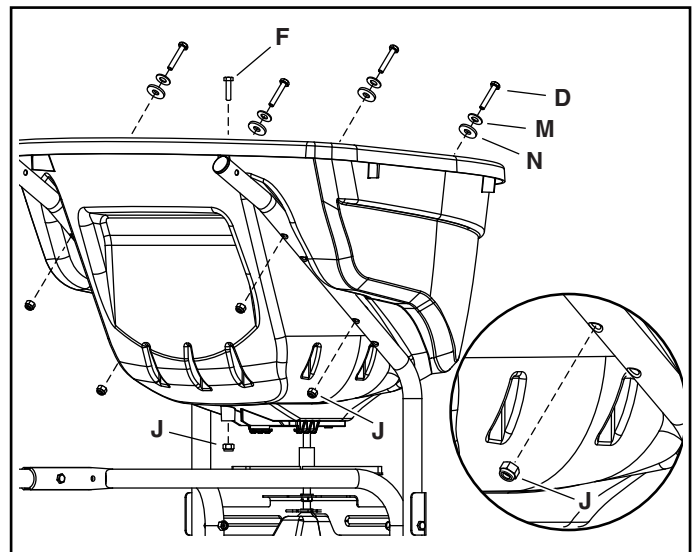

FIGURE 8
STEP 8: (SEE FIGURE 8)
- Attach the hopper to the **UPPER SET** of holes in the hopper support tubes using four 1/4" x 1-3/4" hex bolts (D), 1/4" washers (M), nylon washers (N) and 1/4" nylock nuts (J). **Make only finger tight.**
- Insert the 1/4" x 1" hex bolt (F) into the hole in the bottom of the hopper, pressing the head of the bolt into the hex shaped recess of the hole. Install a 1/4" nylock nut (J) onto the bolt and **tighten.**